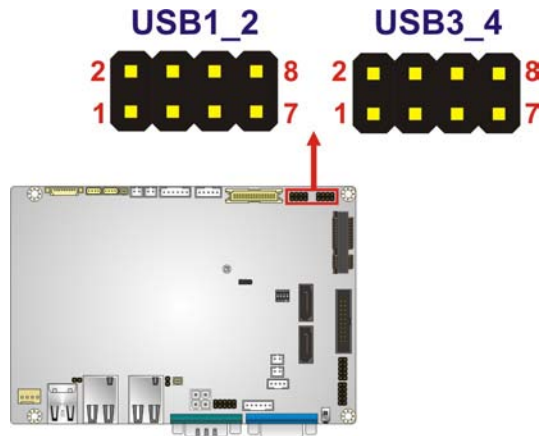

Figure 3-29: USB Connectors Locations
- CN Location: See **Figure 3-29**